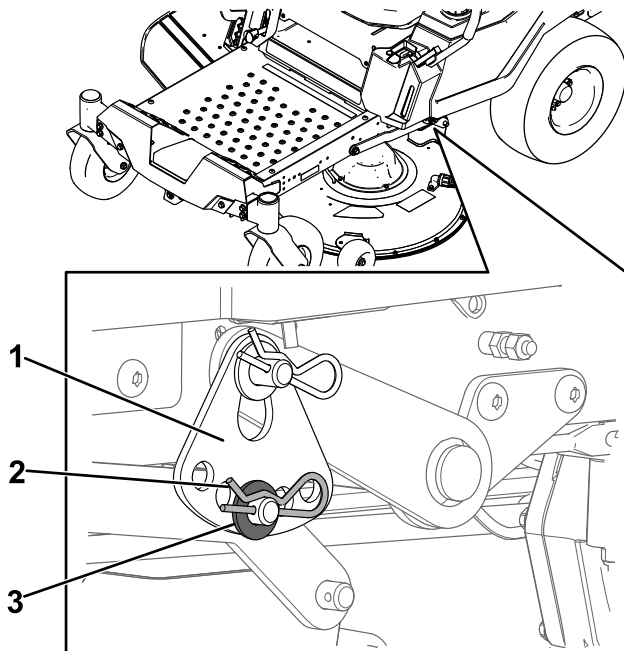

Figure 68
6. Remove the hairpin cotter and washer from the lower lift-arm pin (Figure 68).